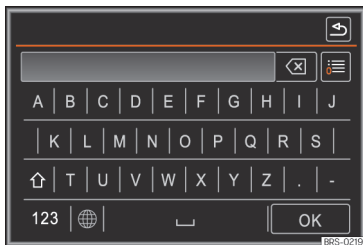

**Fig. 223** Search window.
- Enter the name of the contact you are looking for in the window »» Fig. 223. While the characters are being entered, a contact is displayed in the input field.